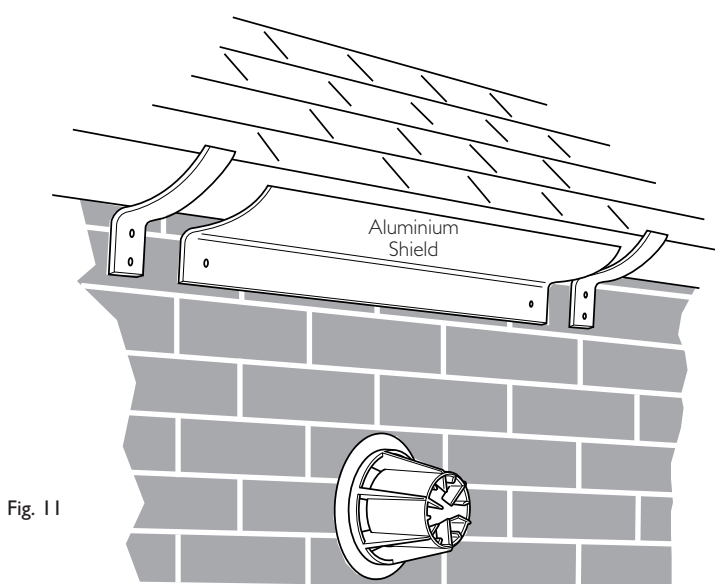

Fig. 11
3. If the terminal is fitted within 1 metre (39in) of a plastic gutter, within 500mm (19½ in) of a painted eave or a painted gutter, an aluminium shield of at least 1 metre (39in) long should be fitted to the underside of the gutter or painted surface. An air space of 5mm (⅜ in) should be left between shield and gutter (Fig. 11).